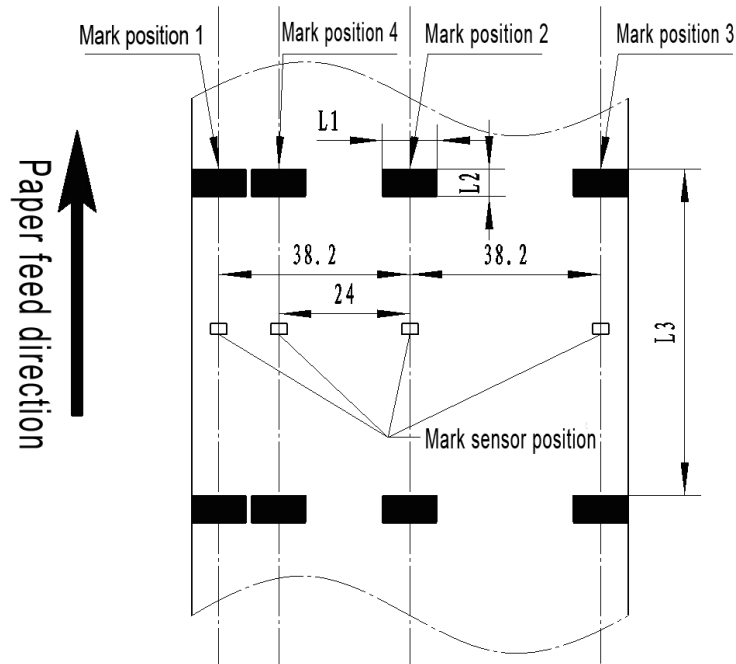

Figure 2.4.2 Mark position
Paper width: The mark width of paper holder includes 82.5mm, 80mm, 76mm, 70mm, 56mm and 48mm, among which the 56mm and 48mm width paper need to adjust the firmware and only adapt to Mark position 2 (see Figure 2.4.2 Mark position).
- ✓ For the paper mark over 79mm width, you can select thermal layer/non-thermal layer left, middle and right (seven positions) as shown in Figure 2.4.2. Ensure beside marks cover mark sensor completely (The space between mark sensor and the paper midline is 38.2 mm);